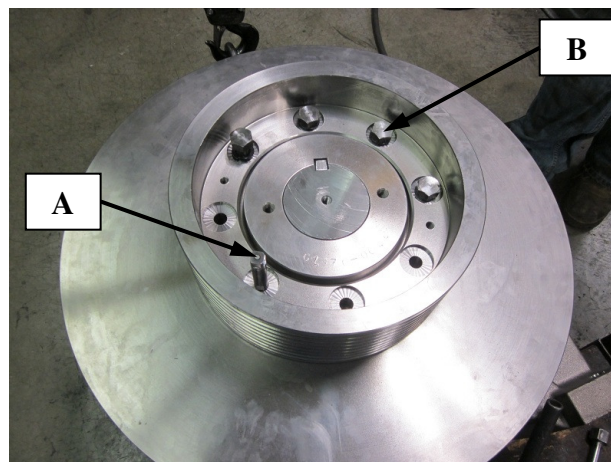

Figure 5
- After all the mounting holes have been reamed (excluding the hole with the guide pin "A"), install all of the sheave body bolts "B." Tighten the bolts using an impact driver. Refer to Figure 5.